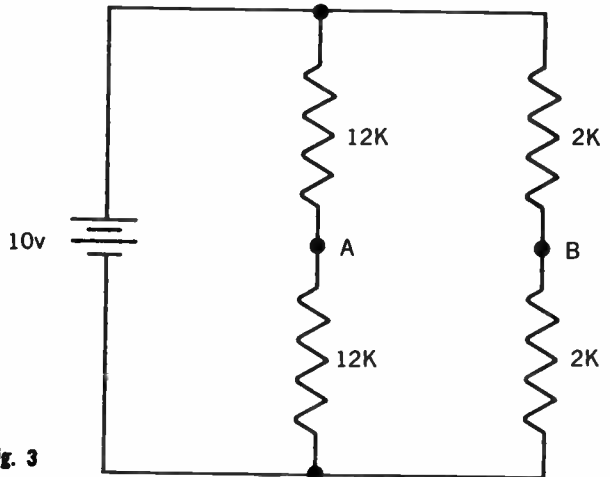

Fig. 3
- In Fig. 3, what voltage would be measured from A to B?